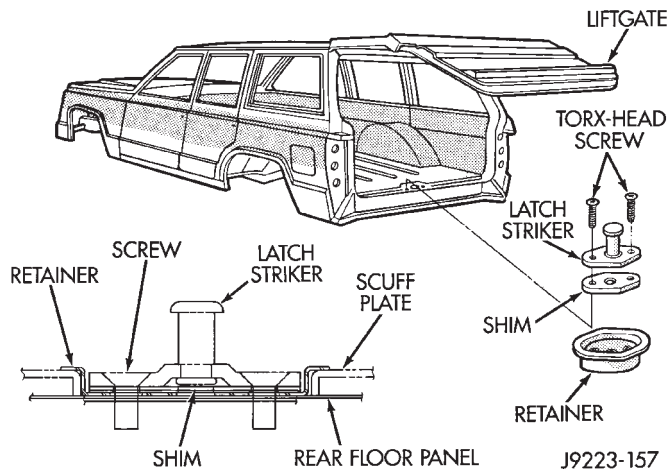

Fig. 125 Liftgate Latch Striker
- (6) Remove the key lock cylinder.
- (7) Remove the latch striker screws from the scuff plate and cross sill (Fig. 125)